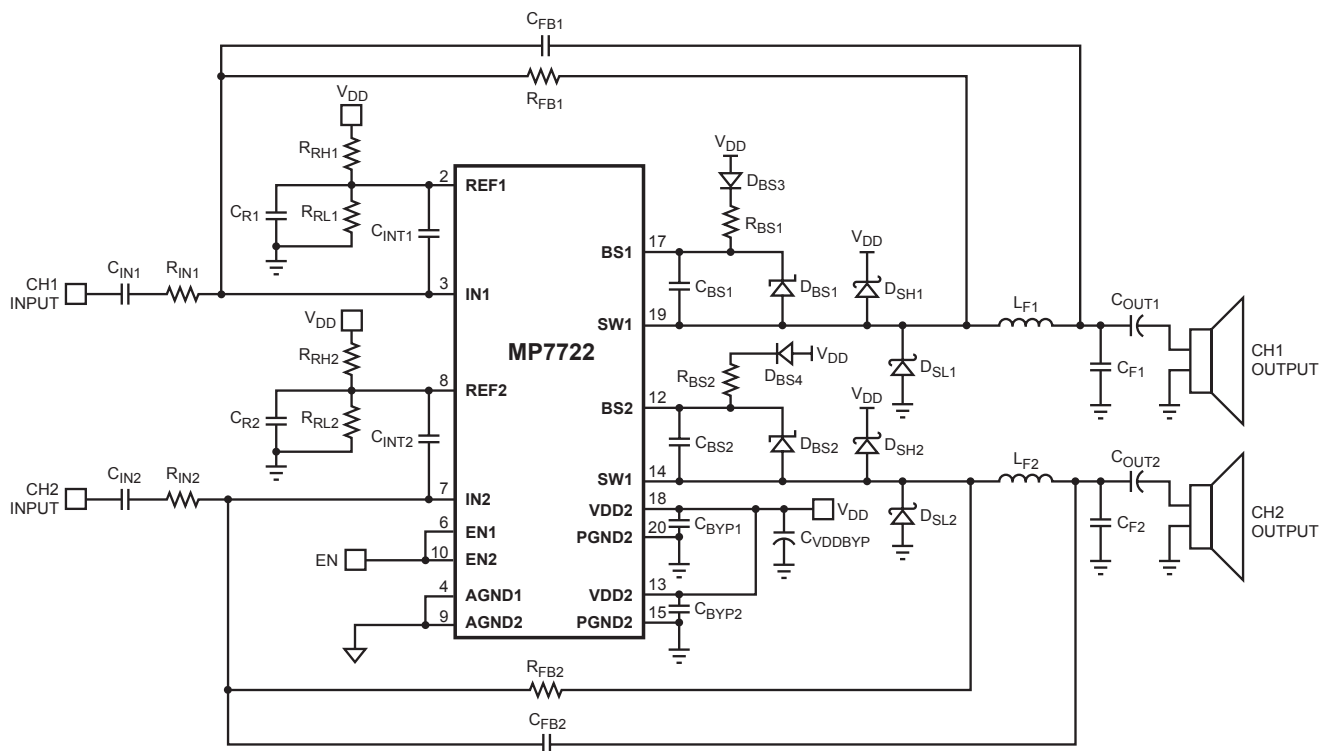

Figure 1—2 x 20W Stereo Typical Application Circuit
The MP7722 uses a minimum number of external components to complete a stereo Class D audio amplifier. The circuit of Figure 1 is optimized for a 24V power supply and a 1.5V RMS maximum input signal. This circuit should be suitable for most applications. However, if this circuit is not suitable, use the following sections to determine how to customize the amplifier for a particular application.
**Table 1—Switching Frequency vs.  $V_{DD}$ , Timing Capacitor and Feedback Resistor (see Figure 1)**